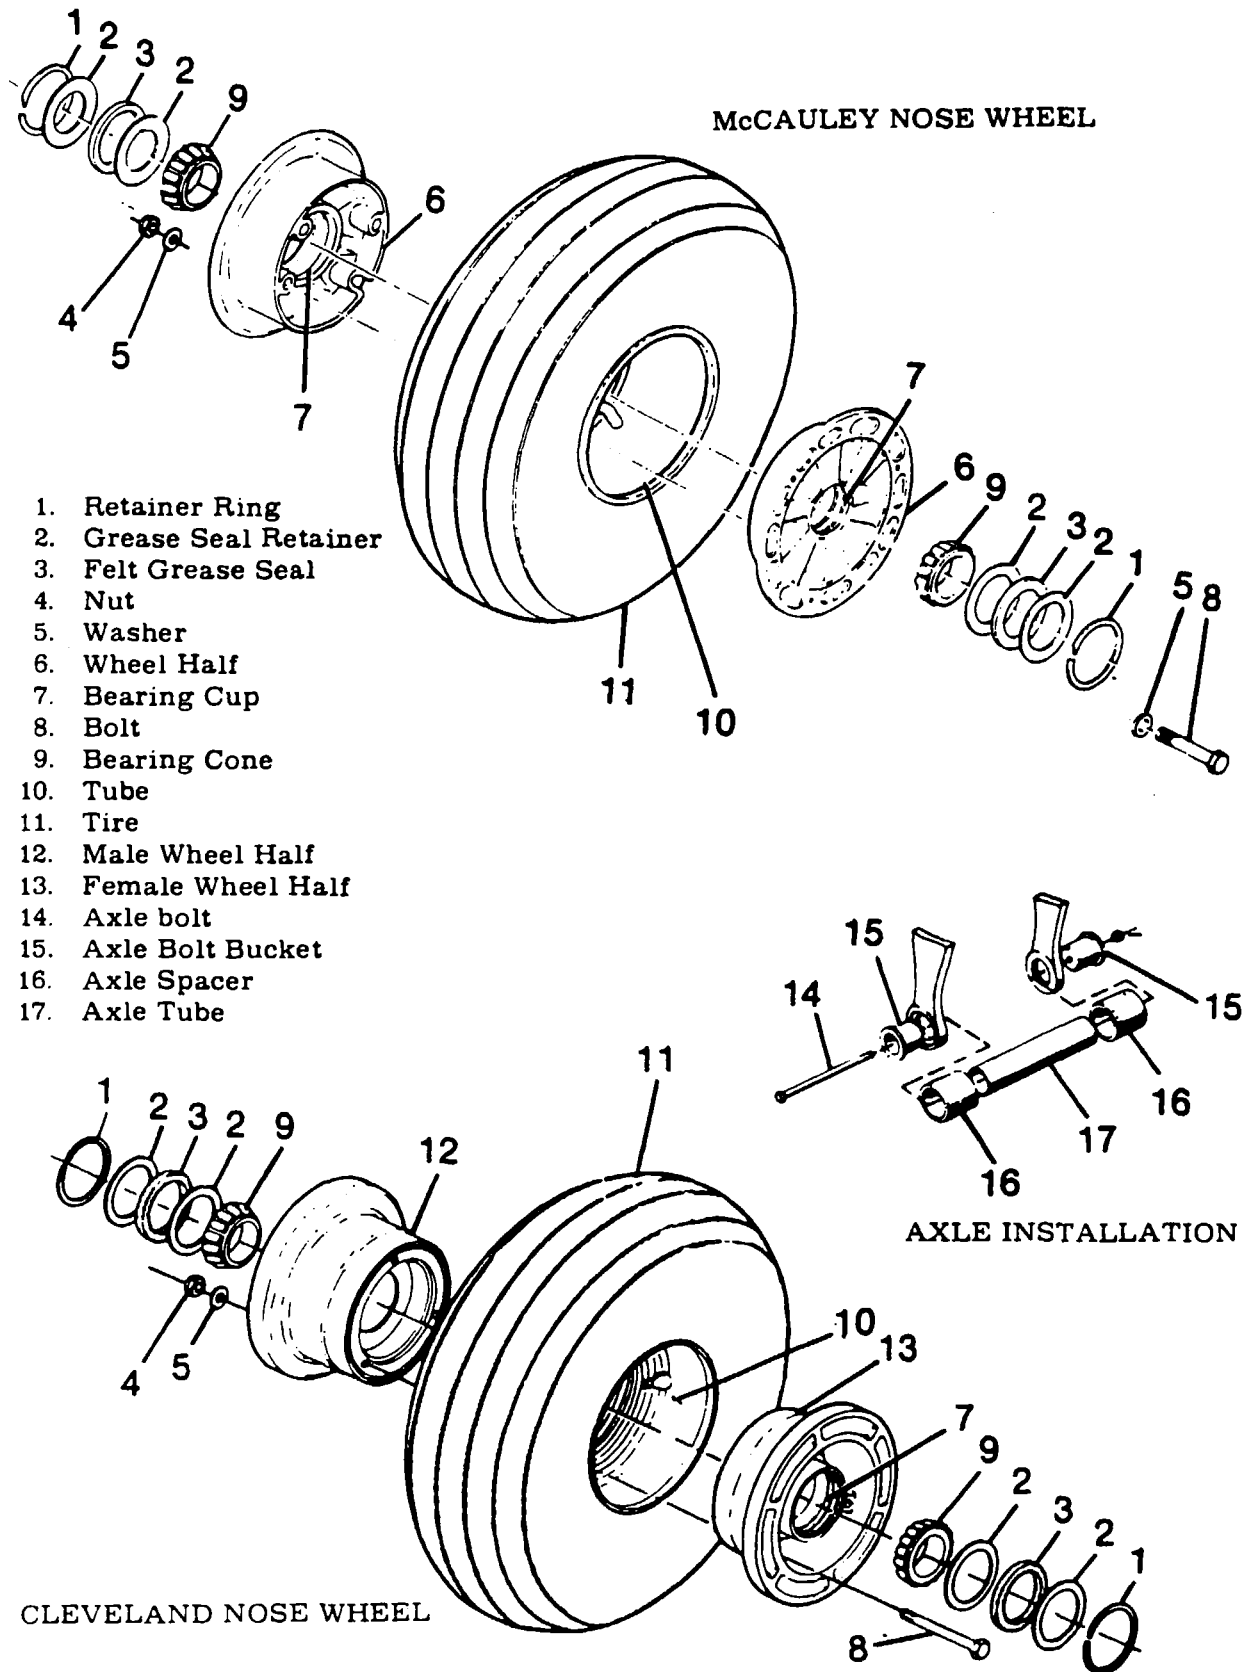

Figure 5-20. Nose Gear Wheel and Tire Assembly
- 5-135. **DESCRIPTION.** The aircraft may be equipped with either Cleveland or McCauley wheel assemblies. Separate disassembly, inspection and re-assembly instructions are provided for each type. Basic difference of the two types are shown in figure 5-20.
5-137. DISASSEMBLY OF CLEVELAND NOSE WHEEL AND TIRE ASSEMBLY. (See figure 5-20.)
5-139. REASSEMBLY OF CLEVELAND NOSE WHEEL AND TIRE ASSEMBLY. (See figure 5-20.)